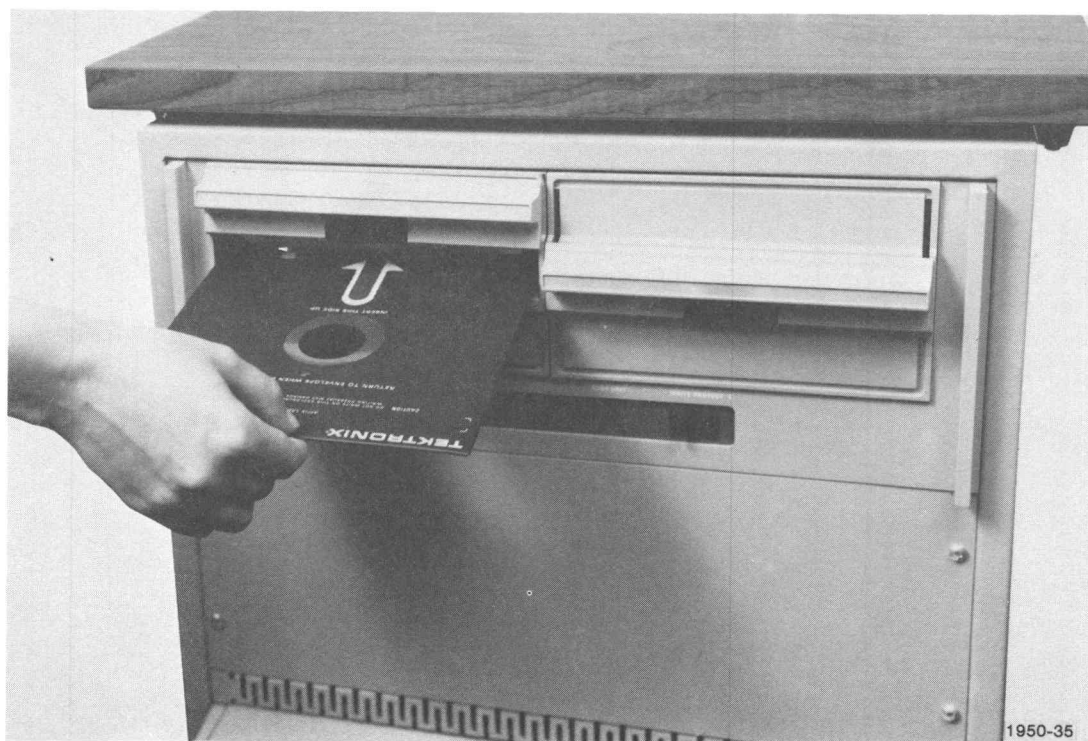

Fig. 8-10. Inserting a flexible disc into the Flexible Disc Unit drive.
3. Pick up the flexible disc so that the label side of the jacket faces up. On Tektronix discs, the instruction INSERT THIS SIDE UP is printed on the disc jacket. Slide the disc into the slot in the drive. Insert the edge with the write-protect notch first. (The write-protect notch is often covered with a small strip of tape.) On Tektronix discs, an arrow printed on the disc jacket points in the direction that the disc is inserted (Fig. 8-10).